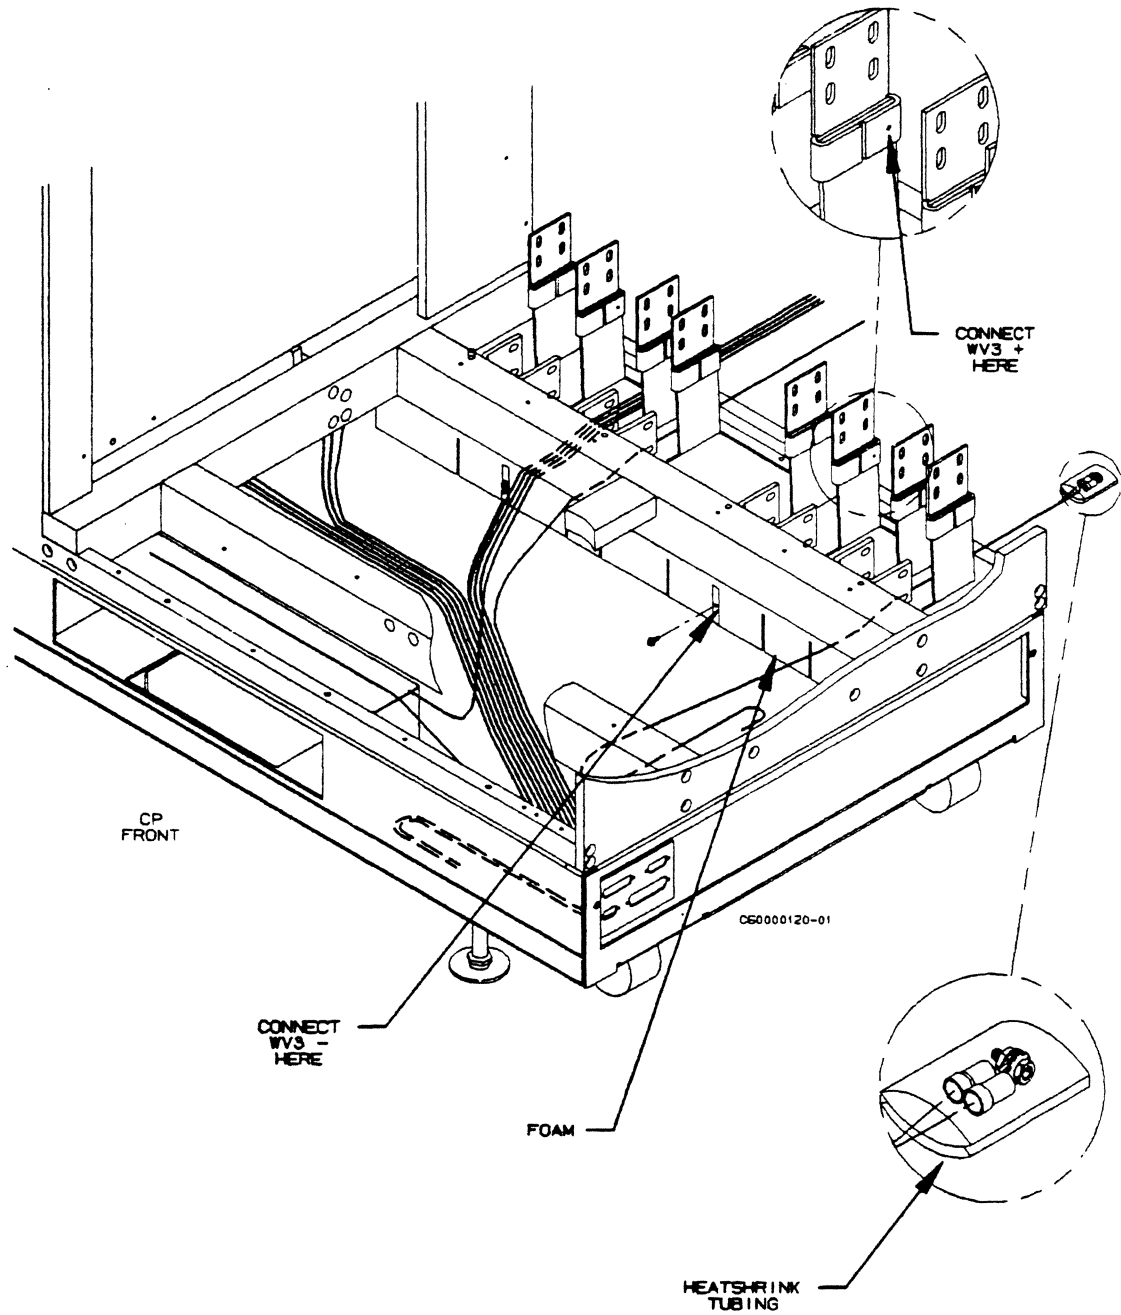

Figure 3-16. Power Sense Wire Location
- ___ 2. Locate WV3+ and WV3- wires (bolted together) in bottom right rear of CP unit (figure 3-16).